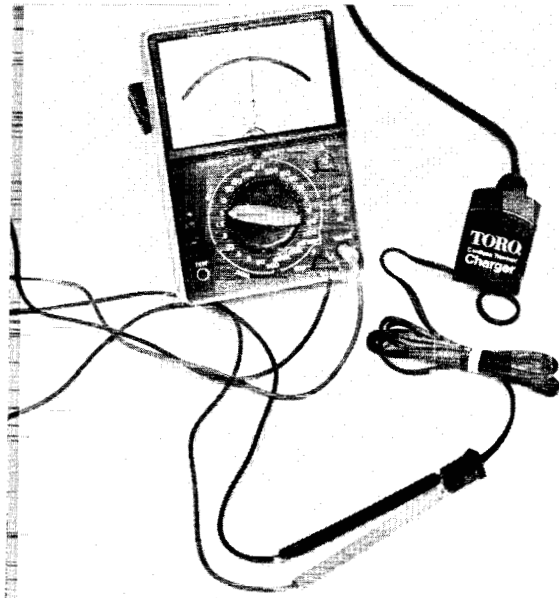

Figure 5.3
5.3 TEST OUTPUT VOLTAGE OF BATTERY CHARGER (fig. 5.3)